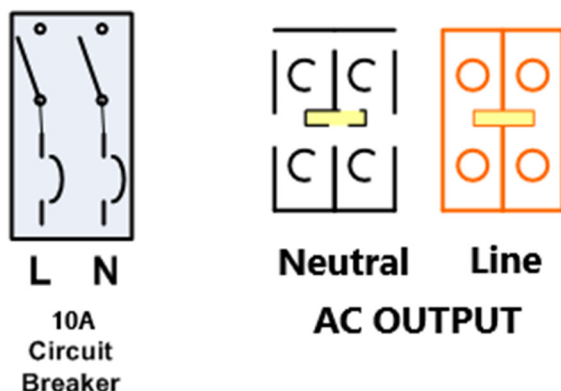

Figure 1: Customer Interface Wiring Diagram
- Connections from the AC power source to the controller inputs are shown on the left side of the Wiring Diagram in Figure 1 and listed in Table 1 below.
- Connection from the Controller 120VAC outputs to the Load are shown on the right side of the Wiring Diagram in Figure 1 and listed in Table 1.